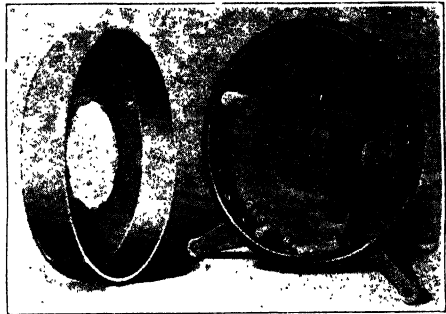

Fig. 39. Typical Expanding-Band Brake
**Brakes.** A number of types of brake construction are used on motorcycles, but they are mostly of the expanding- or contracting-band variety. Fig. 39 shows the construction of an expanding-band brake. The band is of springy material and covered with a brake-lining material. The shoe, or ring, fits inside the brake drum which is keyed to the rear-wheel hub. Operation of the lever pushes